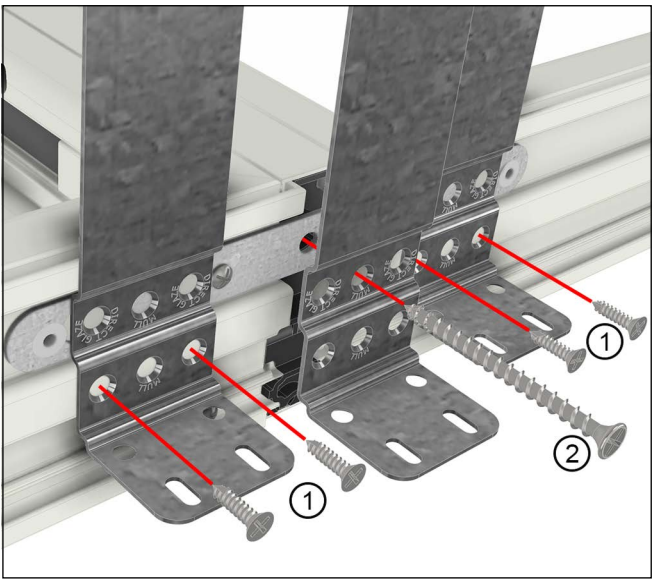

Figure 14 At jamb
8. For mulls with MRF: To install jamb and head jamb brackets. Place a bead of construction adhesive on either side of the mull within 1-1/8" from the center. Apply a 90° bent structural bracket in the same location, securing with 5/8" screws in outside holes. See Figure 14. Apply a third bracket between the first two centered on the mull plug screw slot and fasten with a 2-1/2" Spax screw through the middle bracket hole into the mull pin.